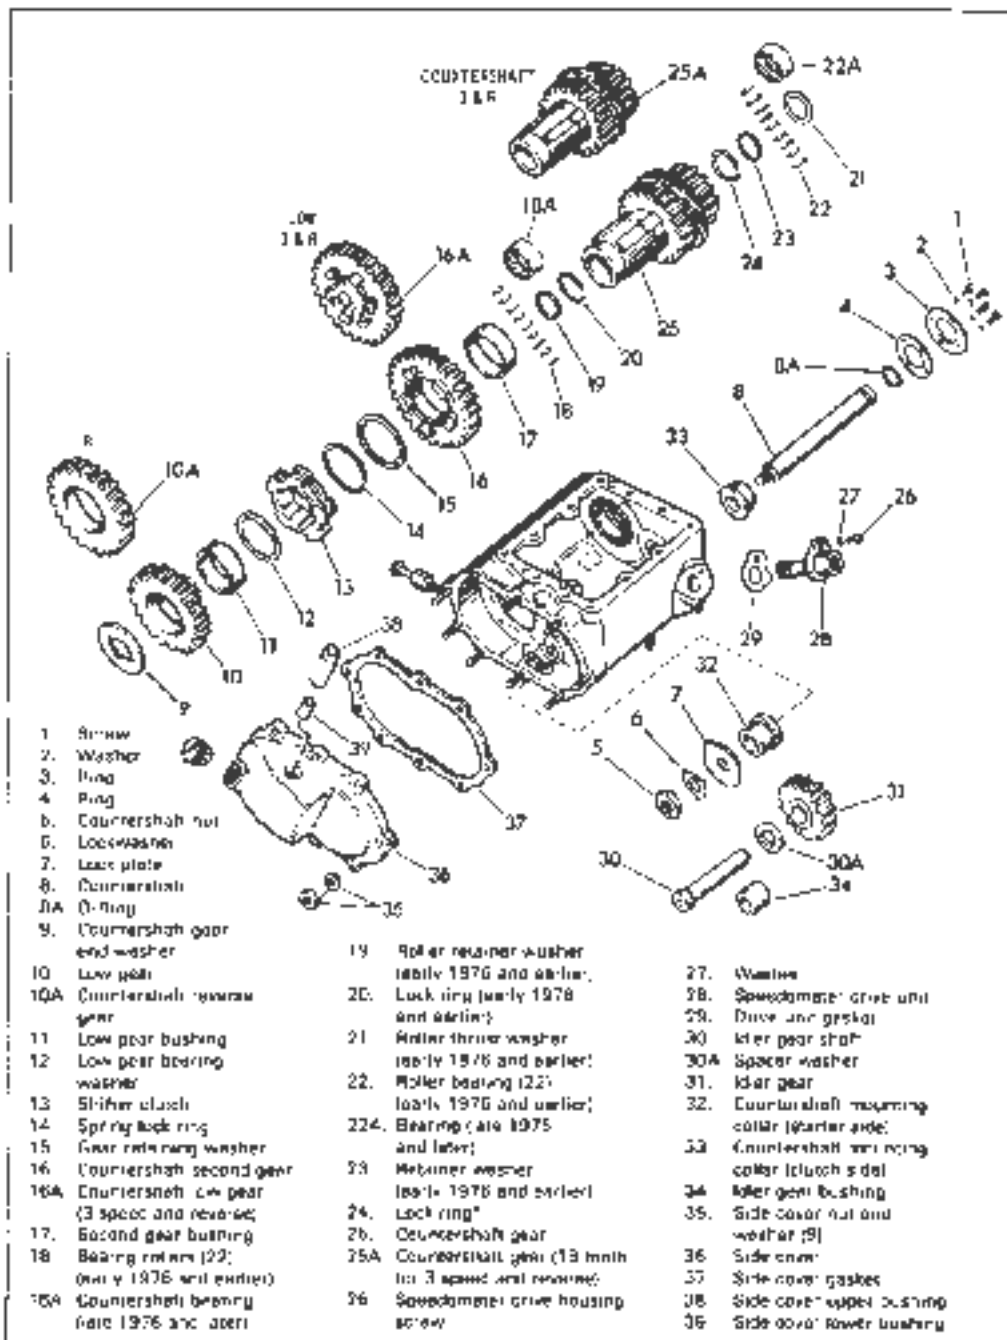
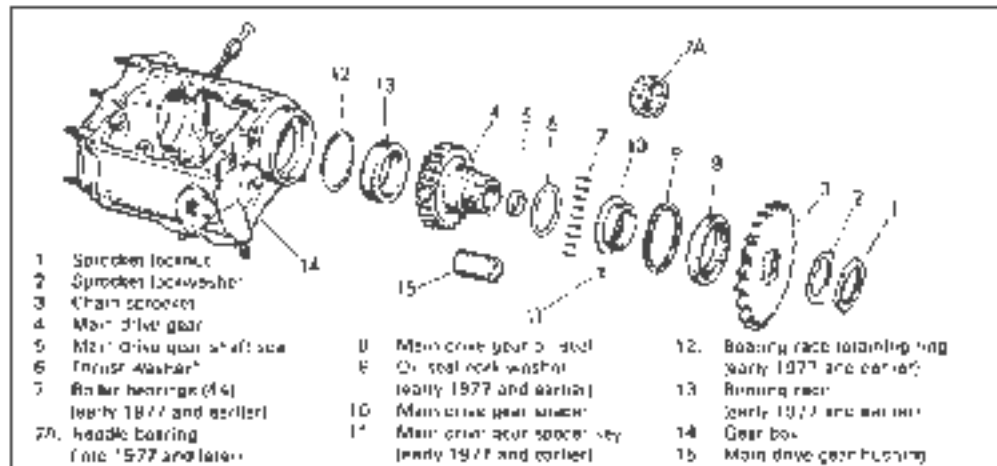

Figure 4-18 Countershaft and Case Assembly - Exploded View
Figure 4-20. Main Drive Gear - Exploded View
### DISASSEMBLING COUNTERSHAFT (Figure 4-18)
#### DISASSEMBLING MAIN DRIVE GEAR (Figure 4-20)
(Figure 4-20)
To install main drive gear bearing race (12) (Figure 4-20), heat case to about 200 degrees and press out the race with arbor press after removing bearing race retaining ring (11). Retain case and press in new race and flange is seated against case. Install new bearing race retaining ring.
Check bearings (7 and 7A, Figure 4-20 and 18, 18A, 22 and 25A, Figure 4-18) for proper fit in races according to tolerances shown in "Transmission Specifications." Replacement rollers are available standard, 0004 in. and 0008 in. oversize.
#### ASSEMBLY: MAIN DRIVE GEAR (Figure 4-20)
If working on three-speed transmission, install reverse idler gear (31) (Figure 4-18) and shaft before installing retaining plate.
#### ASSEMBLING COUNTERSHAFT (Figure 4-18)
Refer to Figure 4-18. In three-speed and reverse countershaft assembly, omit shifter clutch (13), lock ring (14), thrust washer (15) and gear bushing (17).
Refer to Figure 4-18. Substitute B4 for B and 10A for 10.